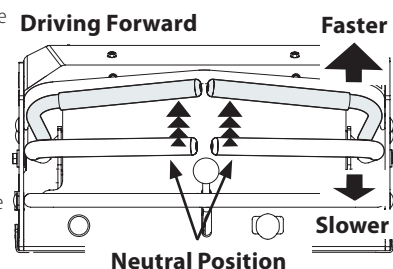

Figure 10
1. Ensure the RH and LH drive control levers are in the neutral position and the parking brake is disengaged. See Figure 10.
1. Slowly and evenly move both drive control levers forward. The mower will start to move forward. See Figure 10.